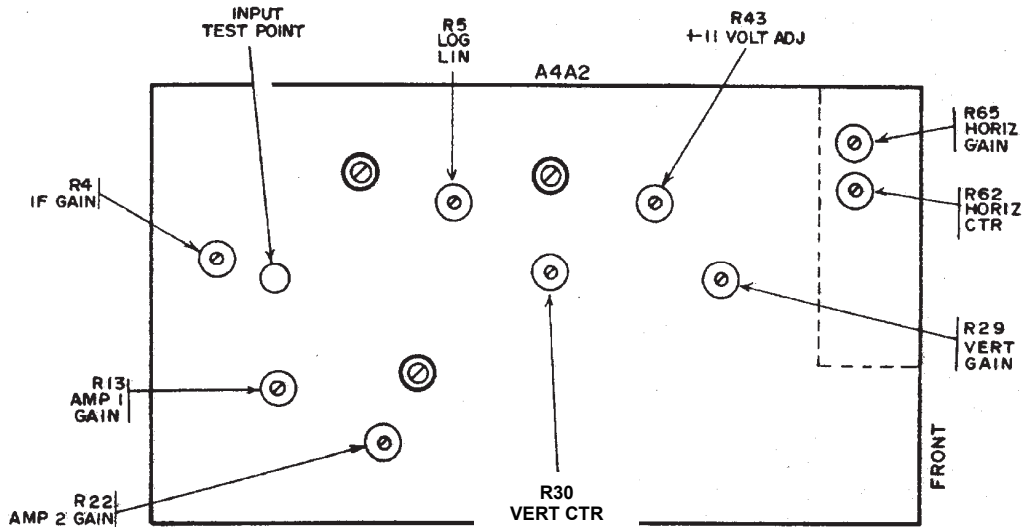

Figure 6. Spectrum Analyzer No. 2 - Adjustment Locations.
- (2) Adjust +11 VOLT ADJ A4A2R43 (fig. 6) for an 11 V indication on multimeter.
- (3) Adjust VERT CTR A4A2R30 (fig. 6) until bottom of trace indicates -109 dBm.
- (4) Connect oscilloscope to INPUT TEST POINT (fig. 6).
- (5) Adjust signal generator amplitude for -30 dBm.
- (6) Adjust IF GAIN A4A2R4 (fig. 6) for 0.4 V p-p spike on oscilloscope.
- (7) Adjust VERT GAIN A4A2R29 (fig. 6) for -30 dBm indication on TI.
- (8) If bottom of trace does not indicate -109 dBm, repeat **b** (3) above.
- (9) Adjust signal generator amplitude to -40 dBm.
- (10) Adjust LOG LIN A4A2R5 (fig. 6) for a -40 dBm indication on TI. If a -40 dBm indication cannot be obtained go on to next step.
- (11) Adjust signal generator to -30 dBm and repeat **b** (7) through (10) above until no further adjustments are required.
- (12) Adjust signal generator amplitude for -60 dBm.
- (13) Adjust AMP 1 GAIN A4A2R13 (fig. 6) for a -60-dBm indication on TI.
- (14) Adjust signal generator amplitude for -90 dBm.
- (15) Adjust AMP 2 GAIN A4A2R22 (fig. 6) for a -90-dBm indication on TI.
- (16) Repeat **b** (12) through (15) above until no further adjustments are required.
- (17) Adjust signal generator amplitude for -30 dBm and repeat **b** (7) through (16) above until no further adjustments are required.
(1) Adjust **HORIZ CTR A4A2R62** (fig. 6) until peak of signal is centered on centerline.
(2) Adjust **HORIZ GAIN A4A2R65** (fig. 6) until end of trace is aligned with right edge of bezel.
(3) Repeat (1) and (2) above until no further adjustments are required.